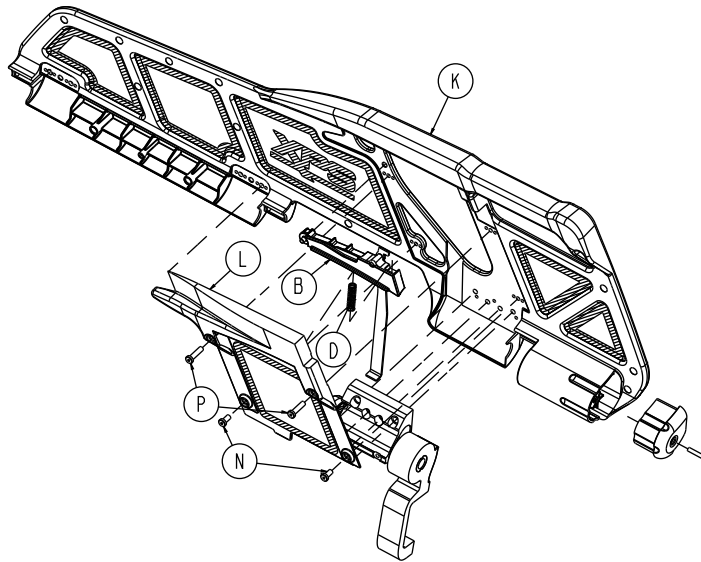

Figure 36 – Release/spring handle assembly components (XPS)
5. Using a 3/32" hex wrench, remove the four socket head cap screws (N and P) that secure the release cover (L) to the overmold assembly (K) (Figure 36). Remove and save the release cover. Save the screws.
6. Using a small slotted screwdriver, pry the handle spring (D) up. Remove and save the spring.
7. Grasp the handle assembly (B) and lift the handle spring side to remove from the cover. Discard the handle assembly.
6. Using a small slotted screwdriver, pry the handle spring (D) up. Remove and discard the spring.